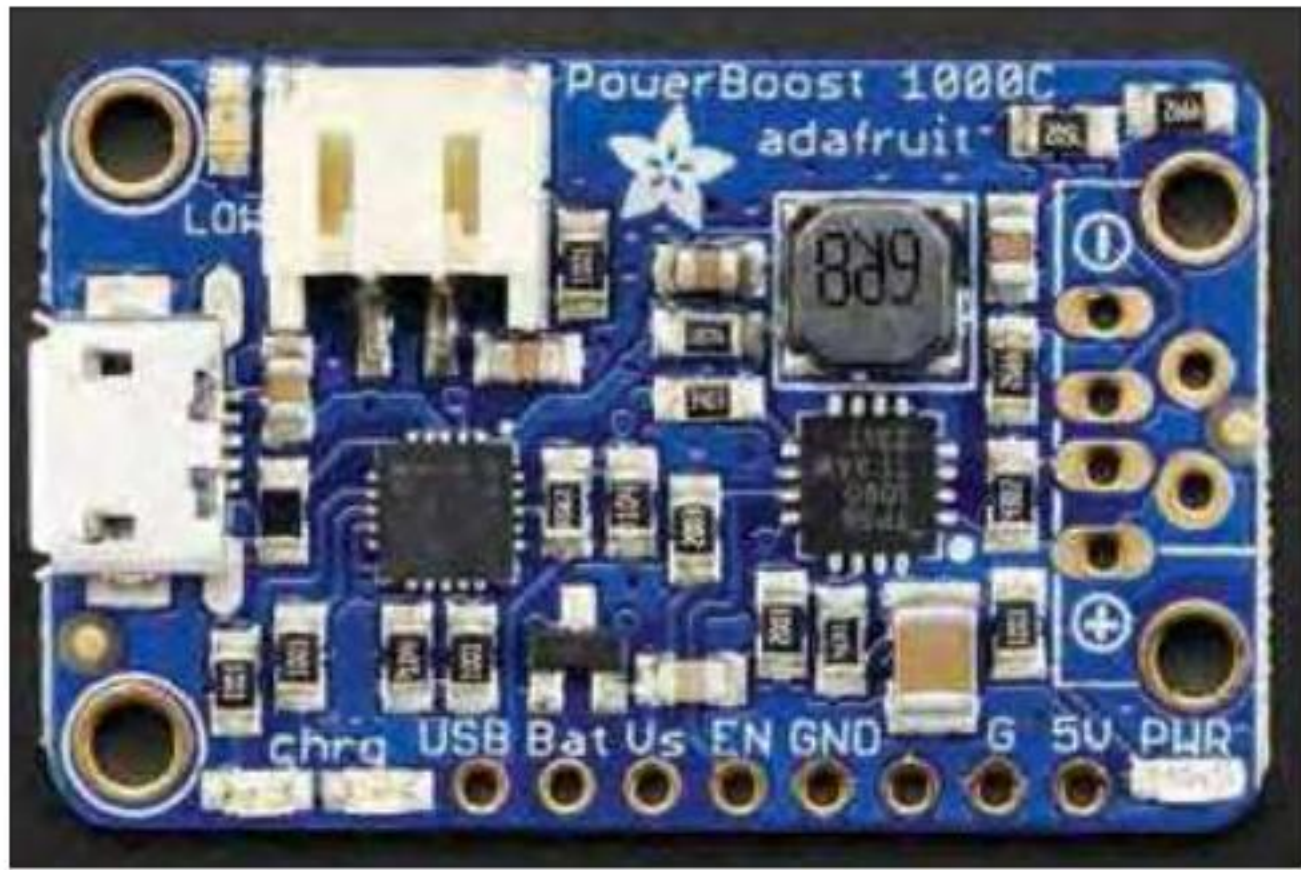

Fig.6. The Adafruit PowerBoost 1000C module contains all the battery management circuitry allowing a LiPo battery to power our robot.
threshold and hence it would automatically switch off after just a few seconds. All kinds of ‘dummy loads’ were tried (LEDs worked the best) but then a new issue arose – how to turn the robot on and off, especially if the battery pack’s on/off button was inaccessible. The battery pack also needs to be recharged, requiring access to its charging socket, which means it would need to be easily removed from the robot. Furthermore, most battery packs are physically bigger (thicker) than we want, so the decision was taken to abandon this idea, and instead use a thin LiPo battery (Fig.5), partnered with a PowerBoost 1000C module from Adafruit (Fig.6). This excellent module not only takes the LiPo voltage (typically 3.7V) and boosts it to 5.2V, it also has a dedicated LiPo charger onboard to recharge the battery without ever needing to have direct physical access to it. An enable pin (EN) on the module provides the ability to switch the 5.2V boosted output on and off. With a little design imagination we can use a push button (instead of a switch) to turn the robot power on; and then use program-code to turn the power off – more on this next month.
- LiPo booster/charger module (the Adafruit Powerboost 1000C module) (Fig.6)